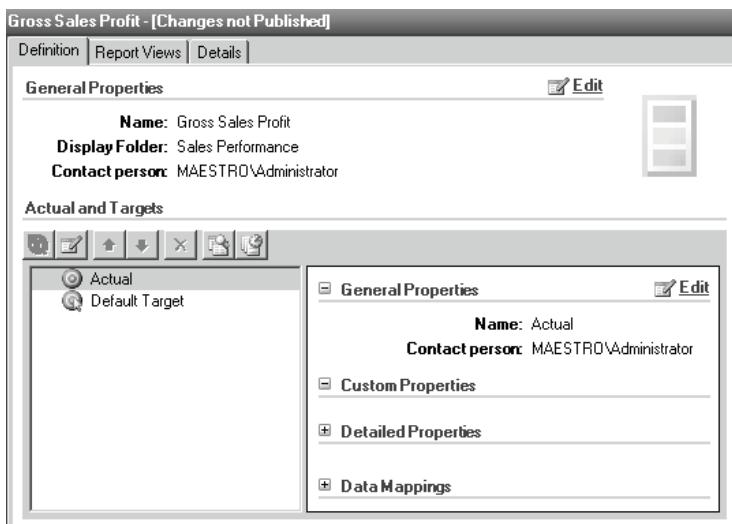

Figure 19.31 By default, a new KPI has Actual and Target elements.
2. Name the new KPI **Gross Sales Profit** and place it in a **Sales Performance** display folder. Grant Read permissions to the authenticated users. Once the wizard creates the Gross Sales Profit KPI, it throws us in the KPI Editor (Figure 19.31). By default, the Create KPI Wizard has generated two KPI elements – Actual and Default Target. We can use them to define the KPI actual and target values respectively.